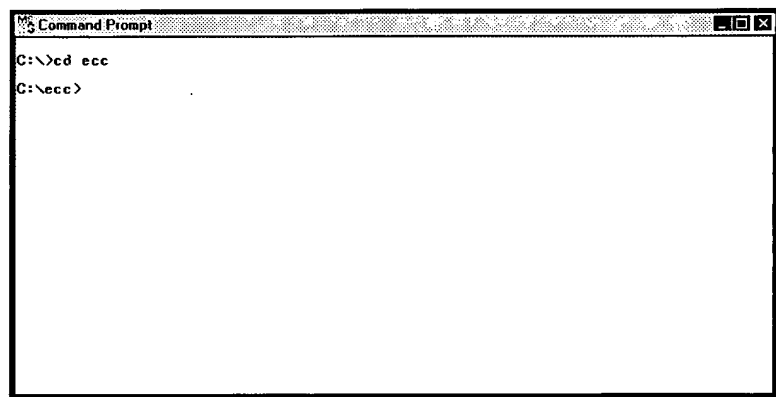

Figure 7–1 Identifying folder where HTML pages are stored
3. Type **cd** (change directory) and the name of the folder containing the HTML pages you are going to FTP (in this example, **ecc**) and press Enter. (See Figure 7–1.)
6. At the password prompt (Figure 7–2), enter the administrator password (**admin** is the default password until the administrator changes it).